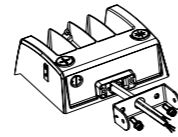

Figure 5.1
- STEP 1: Take the lamp out of package; (Figure 5.1)